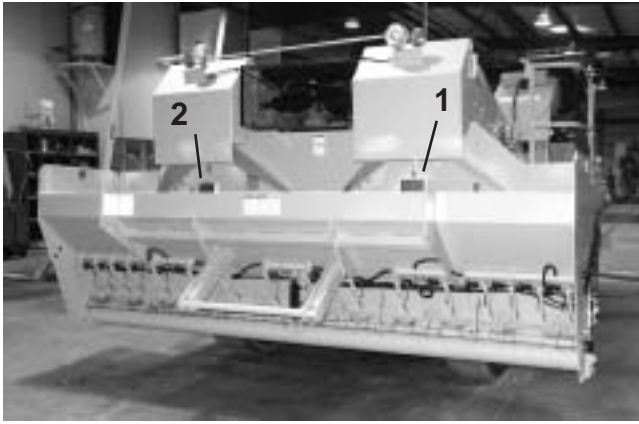

Figure 11. Material Level Paddle
When the conveyor selector switch (Fig 5, ref 20 & 21) is in the auto position, power is supplied to the auto paddle switch mounted below and along the inboard side of the conveyor hood. When this switch is tripped by material moving the paddle, the conveyor will shut "off" and conversely when it is untripped by lack of material it will start the conveyor attempting to fill the hopper. (Fig. 11)